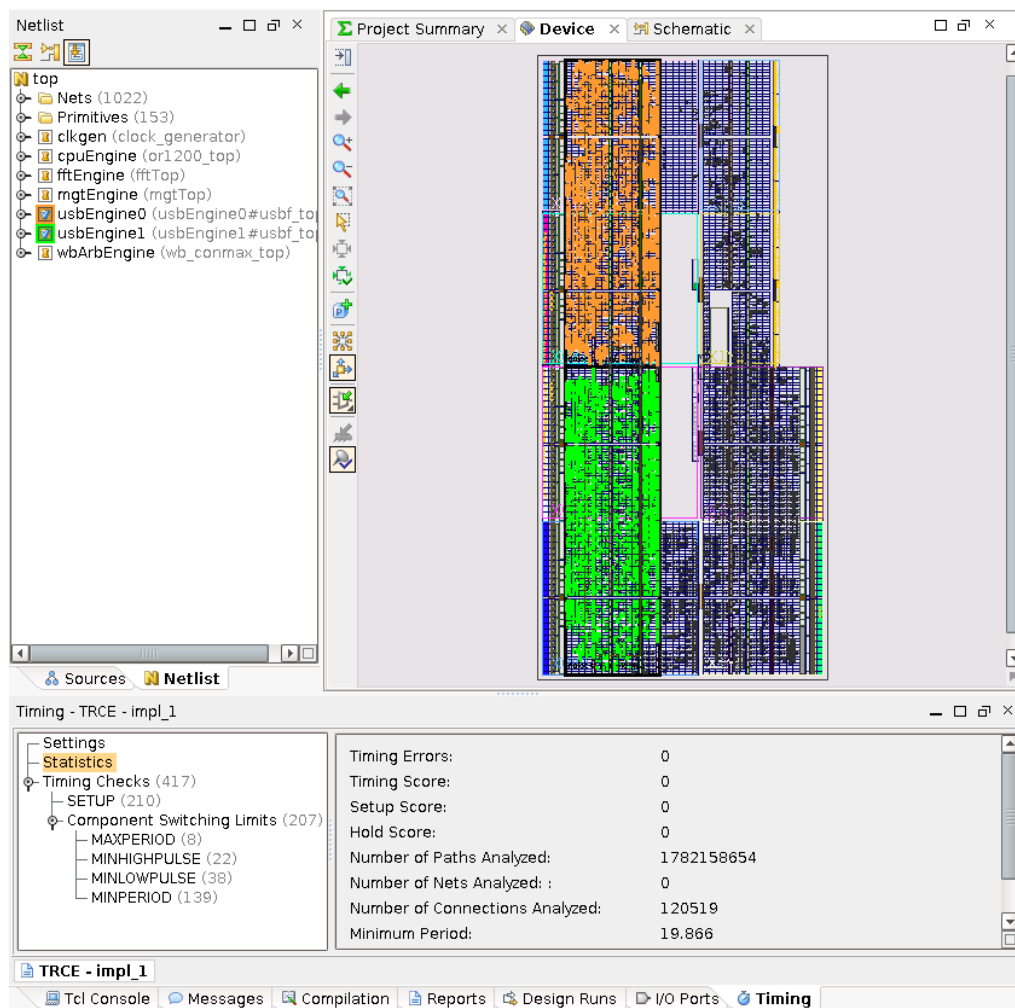

Figure 10: Verifying Successful Implementation Results
To verify that the implementation results were successful, review the final timing score and the detailed timing, as seen in Figure 10.
- To highlight the primitives of the two **usbEngine** modules as shown in Figure 10: